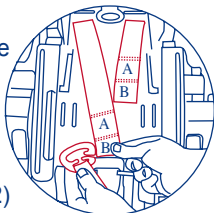

Fig. 30-2
5. Turn the seat over. Locate the Belt Adjuster Plate near the bottom of the seat. (Fig. 30-2) Remove both Harness Straps from the Belt